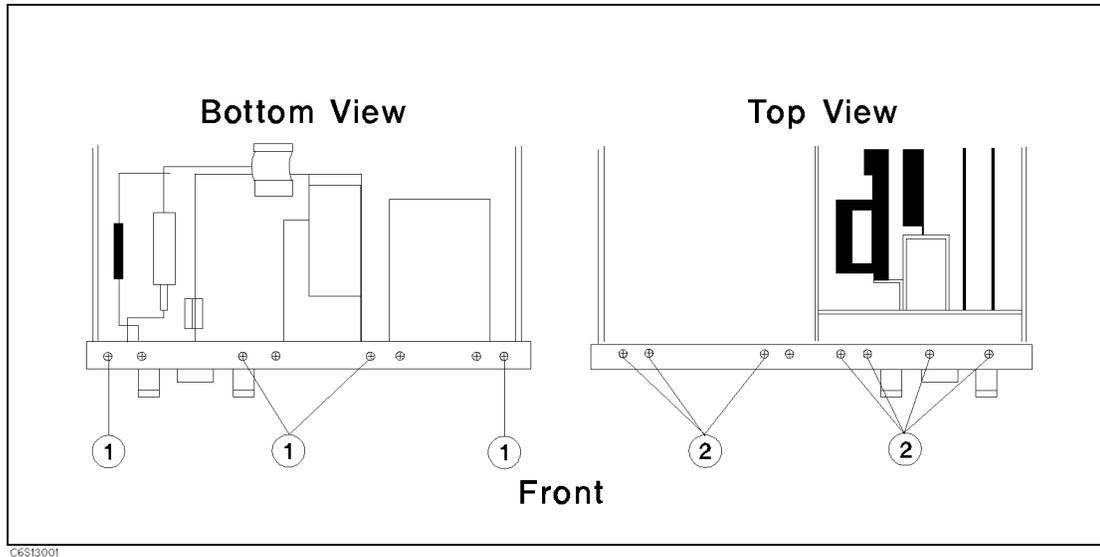

Figure 13-1. Front Panel Screws
3. Remove the four screws designated ① in Figure 13-1 from the bottom of the front frame.
6. Remove the seven screws designated ② in Figure 13-1 from the top of the front frame.